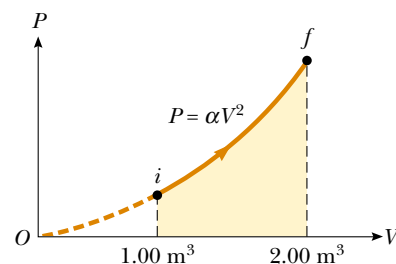

Figure P20.21
- WEB 21. A sample of ideal gas is expanded to twice its original volume of 1.00 m^3 in a quasi-static process for which $P = \alpha V^2$, with $\alpha = 5.00 \text{ atm}/\text{m}^6$, as shown in Figure P20.21. How much work is done by the expanding gas?